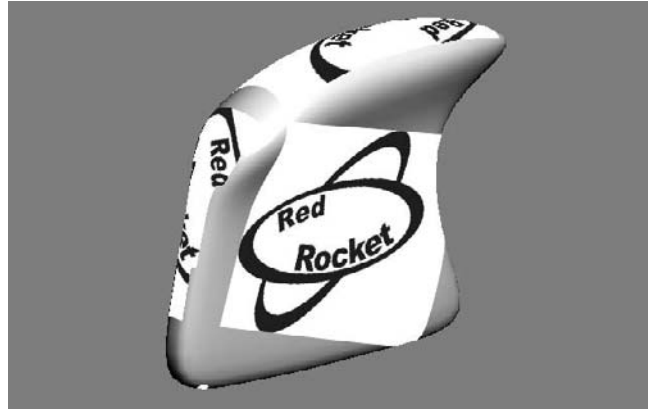

Figure 7.90
2. This works, but now we have the decal in places we don't want, as shown in Figure 7.90. This is because Box Mapping projects the image from six sides, using a planar map for each side, but uses the sided-surface *normal* (a vector that defines which way a face or vertex is pointing) to decide the mapping direction. So, we are going to trick the modifier and remove the depth.